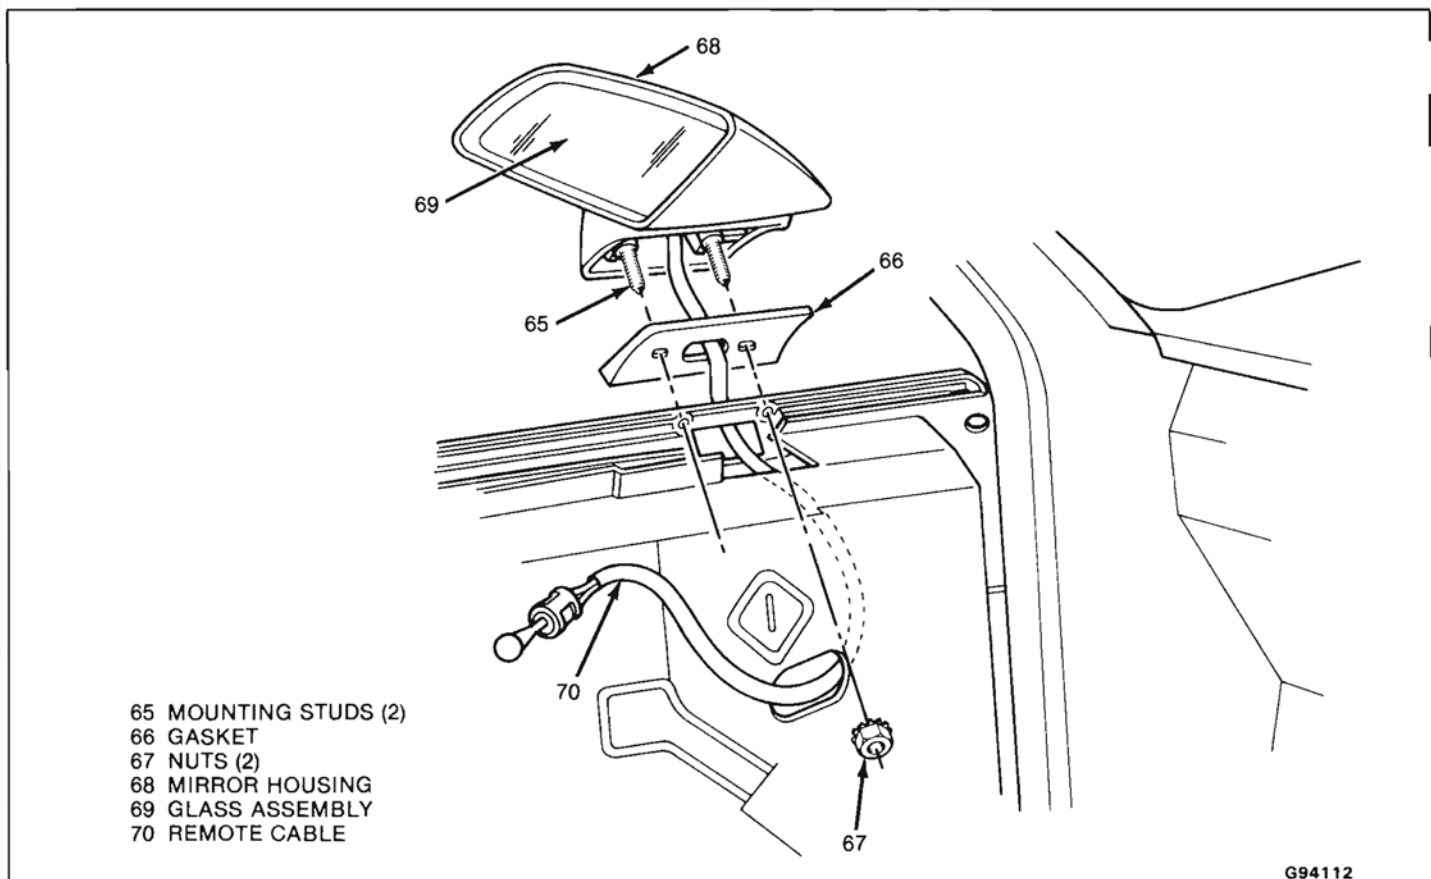

Fig. 20-Remote Control Mirror - Manual
1. Mirror glass assembly (Figure 20)
Remove or Disconnect (Figure 20)